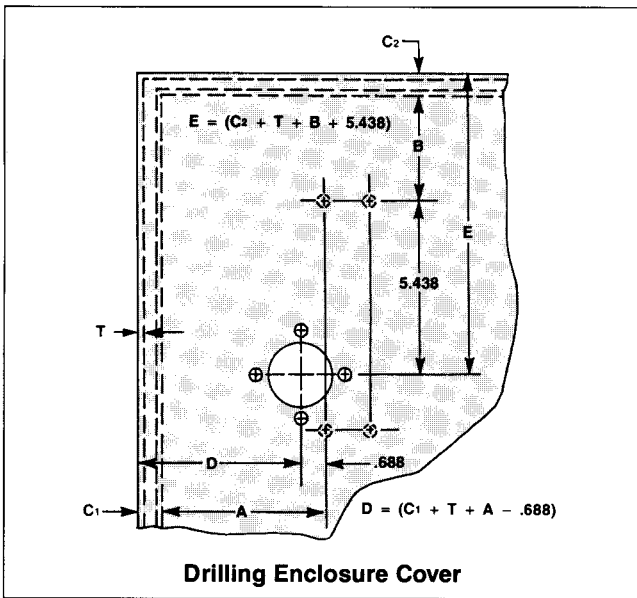

Figure 2
- B. Measure distances **A** and **B** from mounting holes to walls of the enclosure (Figure 2).